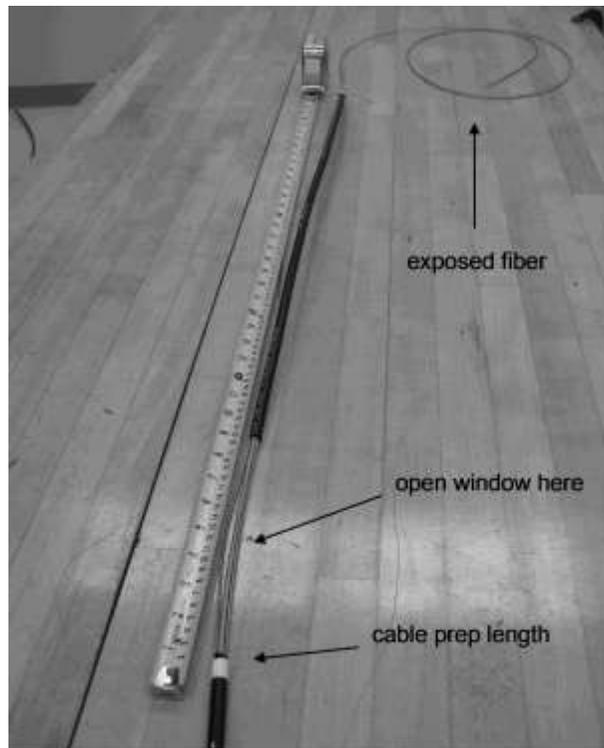

Figure 14 – Cut a window in jacket to expose the buffer tube.
5.5 After exposing the required fiber length, open a window in the cable jacket and armor tape to expose a short length of the buffer tube. The window is opened at the cable prep length marked in step 5.2 above. Repeat steps 4.3 thru 4.8 above to expose the buffer tube (Figure 14)